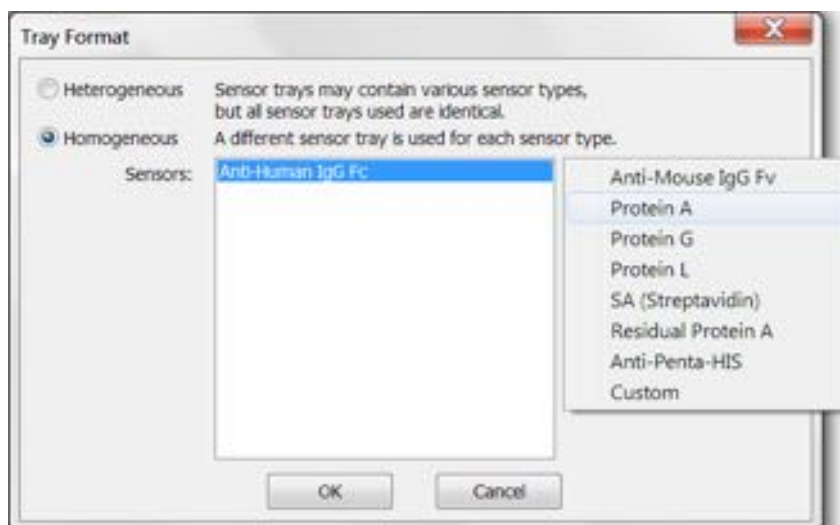

Figure 6-43: Selecting a Biosensor Type in the Tray Format Dialog Box
2. Select **Homogeneous**. Click **Add** to select the first biosensor type (see Figure 6-43).